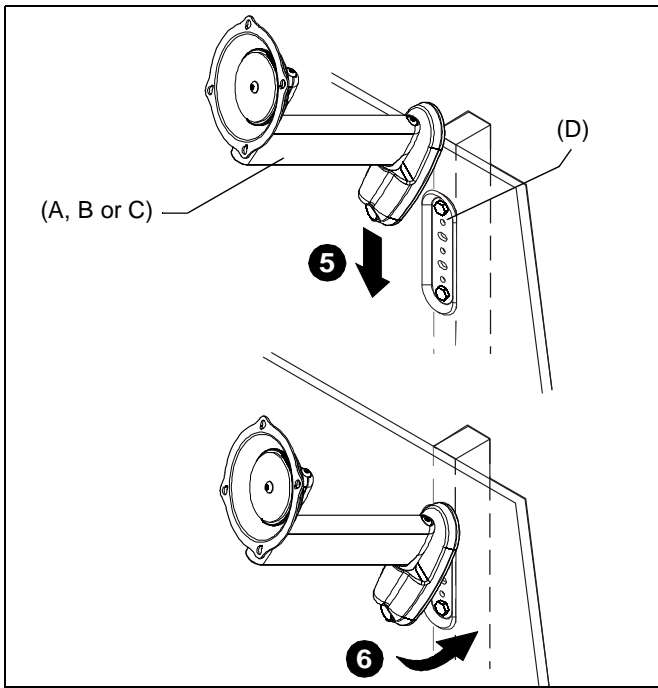

Figure 2
5. Insert top of wall mount (A, B or C) over lip on top of wall plate (D). (See Figure 2)